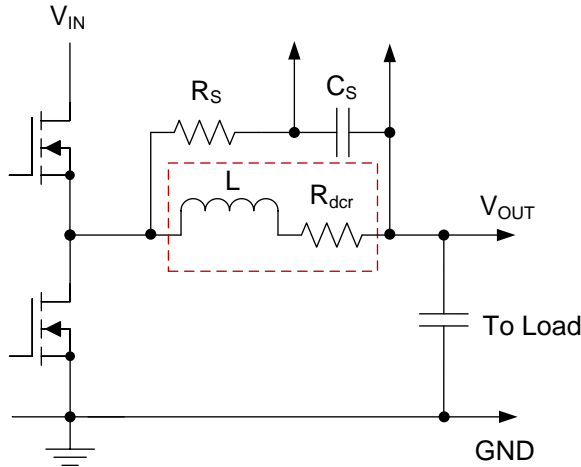
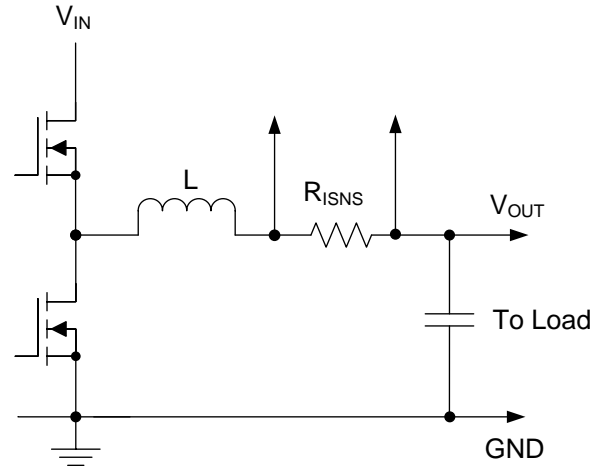
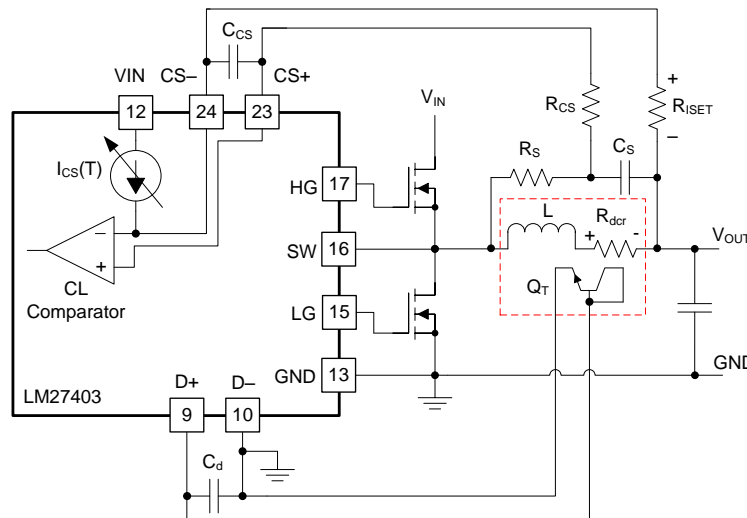

Figure 30. Current Sensing Using Inductor DCR
Figure 31. Current Sensing Using Shunt Resistor
Figure 32. Current-Limit Setpoint Defined by Current Source I_{CS} and Resistor R_{ISET}
As mentioned, the LM27403 implements an inductor DCR lossless current sense scheme designed to provide both accurate overload (current limit) and short-circuit protection. Figure 30 shows the popular inductor DCR current sense method. Figure 31 shows an implementation with current shunt resistor, R_{ISNS} .
Components R_{S} and C_{S} in Figure 30 create a low-pass filter across the inductor to enable differential sensing of the inductor DCR voltage drop. When $R_{\text{S}}C_{\text{S}}$ is equal to L/R_{DCR} , the voltage developed across the sense capacitor, C_{S} , is a replica of the inductor DCR's voltage waveform. Choose the capacitance of C_{S} greater than 0.1 μF to maintain low impedance of the sense network, thus reducing the susceptibility of noise pickup from the switch node.
The current limit circuit arrangement is portrayed in Figure 32. The current limit setpoint is set by a single external resistor, R_{ISET} , connected from the CS– pin to the output voltage terminal. The current sourced from CS– in combination with this series resistance sets the reference voltage to the current limit comparator, as governed by Equation 8.
Inductor DCR temperature compensation is automatically provided using the remote-diode sensed temperature. The temperature coefficient (TC) of the inductor winding resistance is typically 3720 ppm/°C. The current-limit setpoint is maintained essentially constant over temperature by the slope of CS– pin current over temperature. An increase in sensed DCR voltage associated with an increase of inductor winding temperature is matched by a concomitant increase in current limit comparator reference voltage. The inductor temperature is measured by placing an external diode-connected 2N3904 discrete NPN transistor, designated Q_T in Figure 32, in close proximity to the inductor (see the Temperature Sensing: D+ and D– section for more details).
Note that the inductor DCR is shown schematically as a discrete element in Figure 30 and Figure 32. The current-sense comparator inputs operate at common mode up to the input rail voltage. The comparator incorporates a very low input-referred offset to reduce the SNR of the voltage detected across the inductor DCR. The CS– pin current is specified down to a headroom compliance voltage of less than 0.8 V (that is, $V_{VIN} - V_{CS-}$) and over the full operating temperature range (see the Electrical Characteristics Table and Figure 13). The current source is powered from the input to allow the current limit circuit to work in high duty cycle applications.
With power inductors selected to provide lowest possible DCR to minimize power losses, the typical DCR ranges from 0.4 mΩ to 4 mΩ. Then, given a load current of 25 A, the voltage presented across the CS+ and CS– pins ranges between 10 mV and 100 mV. Note that this small differential signal is superimposed on a large common-mode signal that is the dc output voltage, which makes the current sense signal challenging to process. To aid in rejection of high frequency common-mode noise, a series resistor, R_{CS} , of same resistance as R_{ISET} , is added to the CS+ signal path as shown in Figure 32. A small capacitor, C_{CS} , added across CS+ and CS– provides differential filtering.
A current sense (or current shunt) resistor in series with the inductor can also be implemented at lower output current levels to provide accurate overcurrent protection, see Figure 31. Burdened by the unavoidable efficiency penalty and/or additional cost implications, this configuration is not usually implemented in high-current applications (except where OCP setpoint accuracy and stability over the operating temperature range are critical specifications). However, if a shunt resistor is used, temperature compensation is not required. In this case, short the D+ to D– pins to disable this function. The current sourced from CS– in this case becomes 5 μA (typical) and is independent of temperature.
In the PCB layout, component pads are recommended to install a small capacitor, designated C_d in Figure 32, between the D+ and D– pins as close to the LM27403 as possible. This capacitor should not exceed 1 nF for 2N3904-type devices. Locate an additional capacitor, typically 100 pF, at the BJT, when operating in noisy environments (for example, where leakage flux from the airgap of a ferrite inductor may couple into the adjacent circuit board traces).